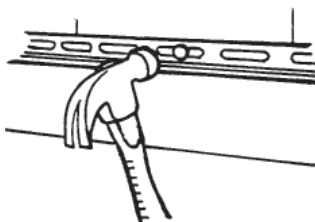

Figure 77.
- Lock on the new panel and nail it up (Fig. 77).